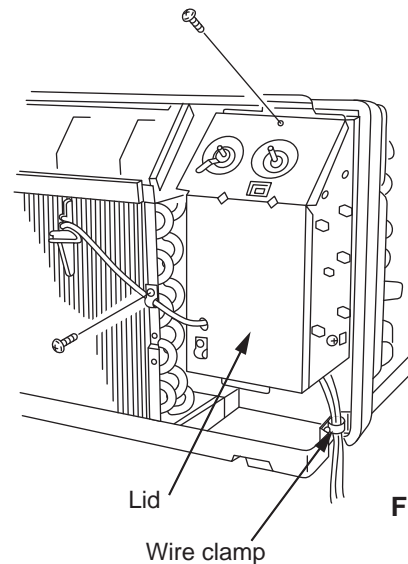

Fig. 4
- (2) Remove the screws holding the lid of the electrical component box, and also remove the wire clamp holding the lead wires. (Fig. 4)